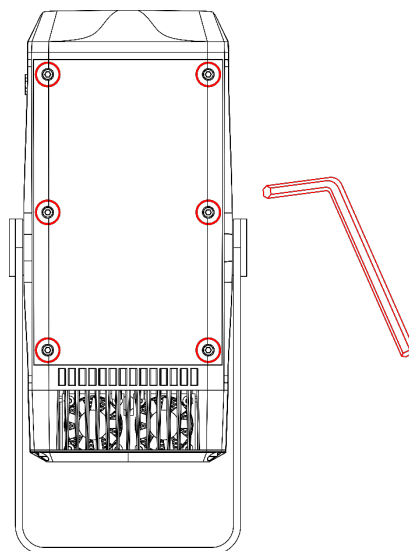

Fig. 15
- 03) Loosen the 6 hex screws on the maintenance cover, as shown in Fig. 15.